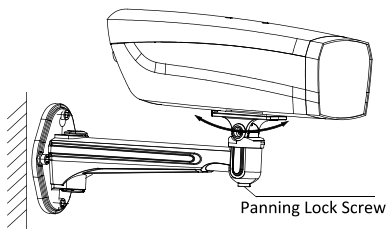

Figure 2-7 Adjust the Panning Angle
10. Loosen the panning lock screw to adjust the panning angle of the camera. As shown in Figure 2-7.